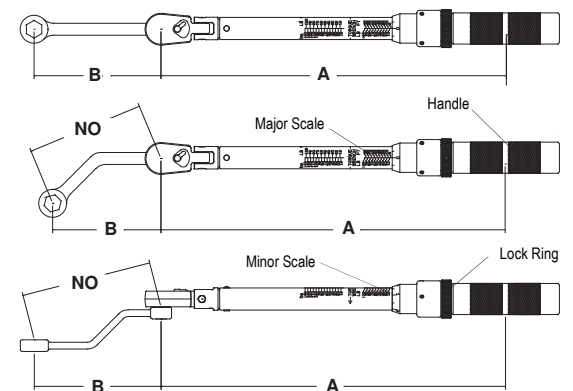

Figure 3
**B** = Length of the adaptor from the center of the square drive to the center of the nut or bolt. Use only the length which is parallel to the handle. (See figure 3)